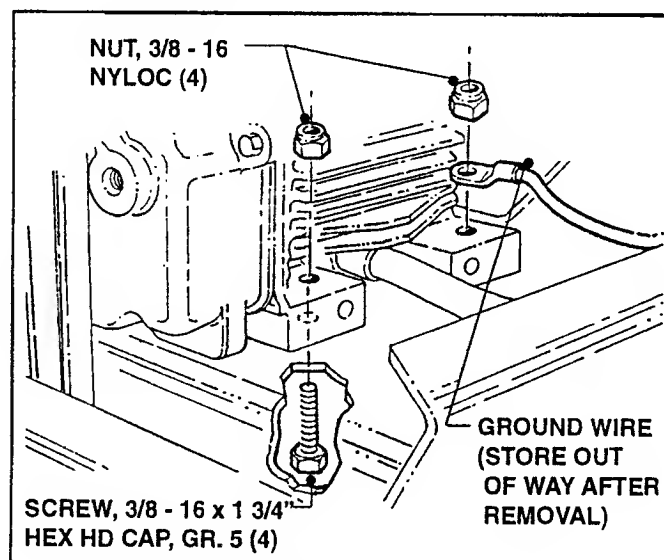

FIGURE 4.8
- K. Remove the four (4) engine mounting nuts and Hex Hd. Capscrews. Store ground wire out of the way. See Figure 4.8.